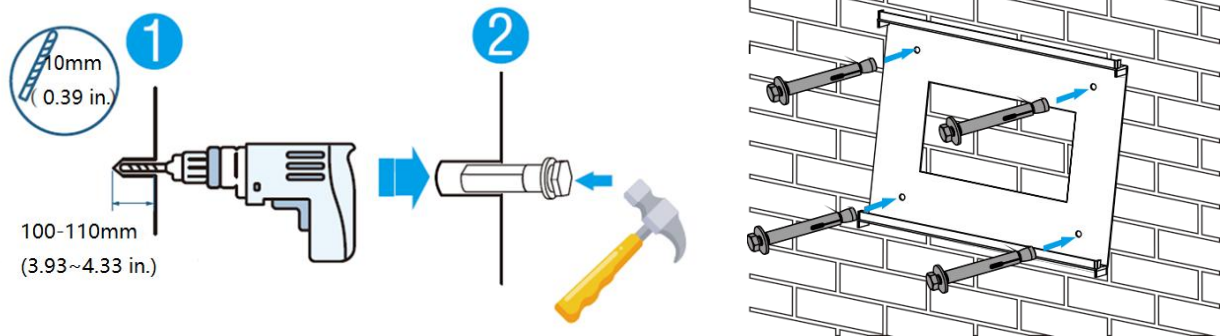
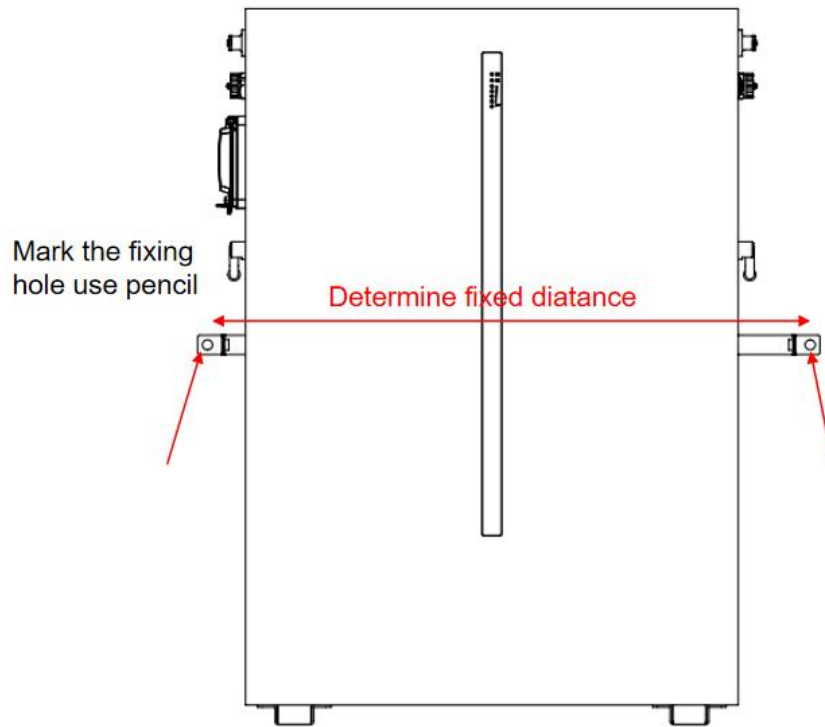

Figure 5-2
Figure 5-5
b) Choose the recommended drill head (as shown in Figure 5-2) to drill 4 holes on the wall, 100mm-110mm deep.
c) Use a proper hammer to fix the hanging plate to the wall, fit the expansion bolt into the holes, as shown in Figure 5-2.
b) Stand the battery on the side of the wall, mark the location of the fixing hole, Choose the recommend drill head (as shown in below picture) to drill 2 holes on the wall, 100-110mm deep, as shown in Figure 5-2 and Figure 5-5.
c) Use a proper hammer to fix the battery to the wall, fit the expansion bolt into the holes, as shown in Figure 5-2.